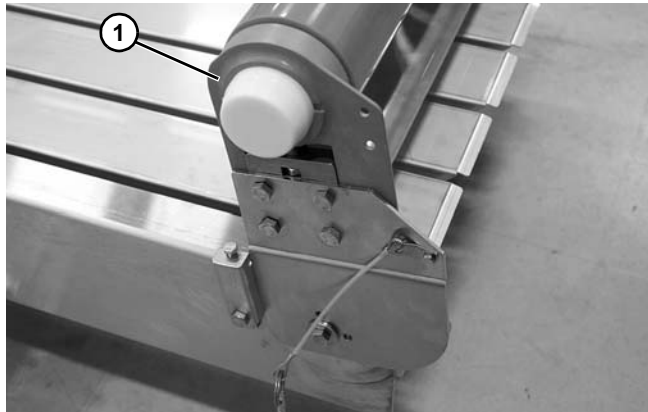

Figure 18
3. Rotate idler end (**Figure 18, item 1**) upward as shown.